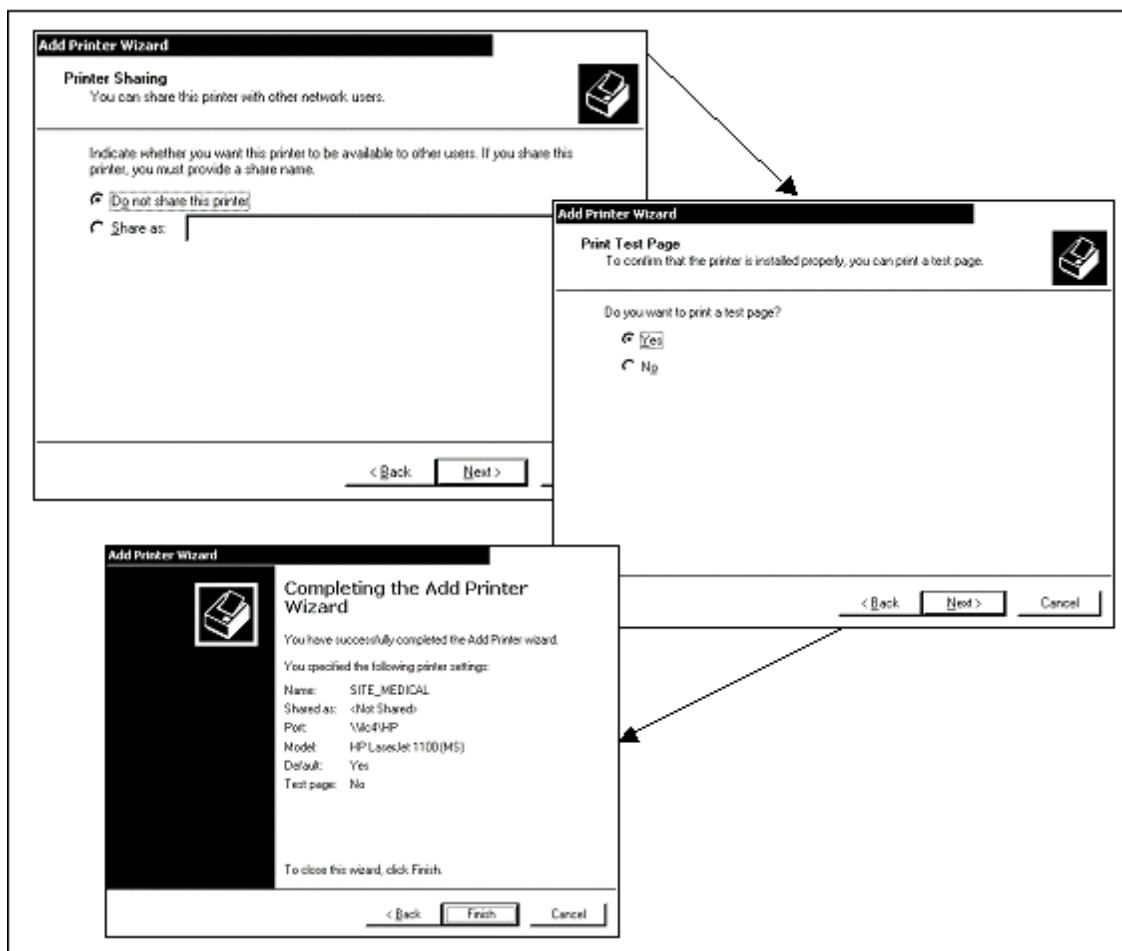

Figure 6-22: Adding an Indirectly Shared Printer, Steps 10-12
10. Click the Do Not Share This Printer option (The printer will still be available) and click the Next button (Figure 6-22).